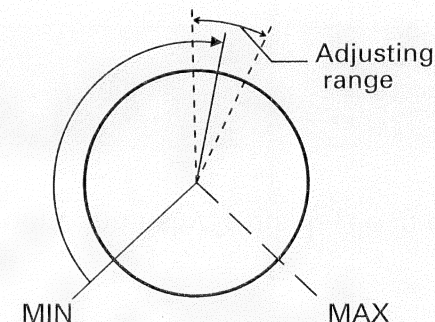

Fig. 13
- The volume’s set point is not indicated on the display when you adjust the volume on the head unit by tuning the volume control. In this case, set the volume control on the head unit to the position illustrated below, in accordance with step 2. (Fig. 13)